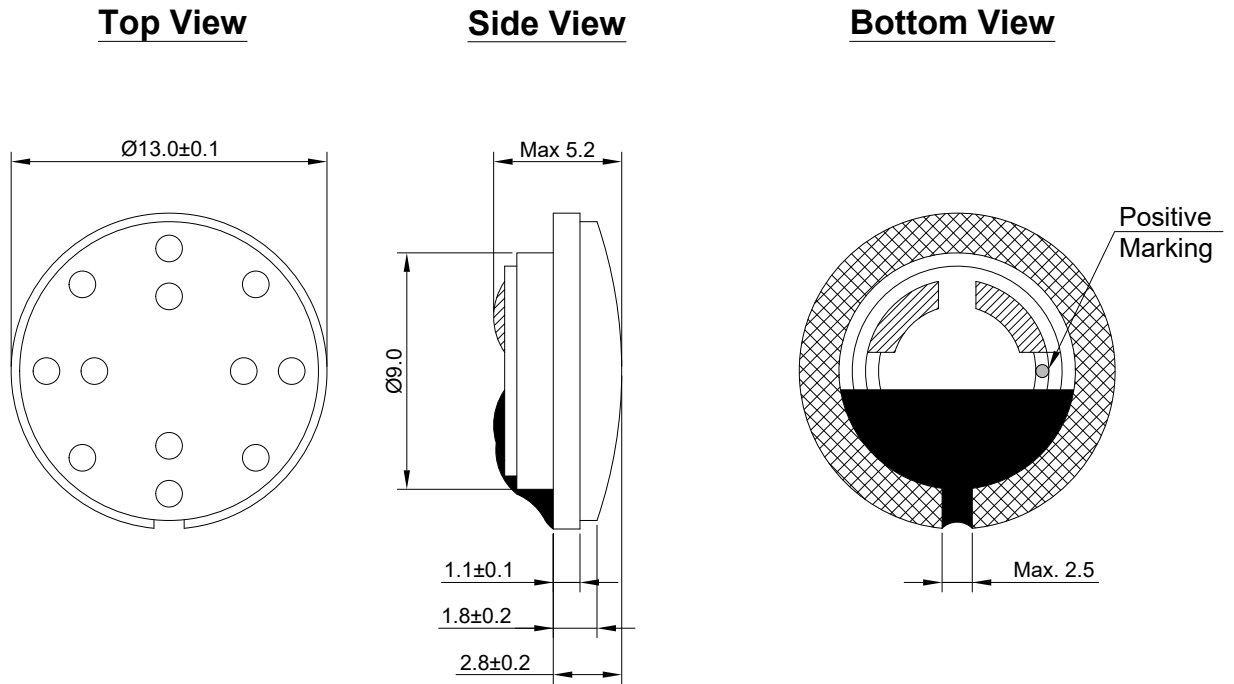

Figure 3. HSR13Z-32 Mechanical Layout
4.3.1. Layout and Dimension : See Section 6, Figure 3